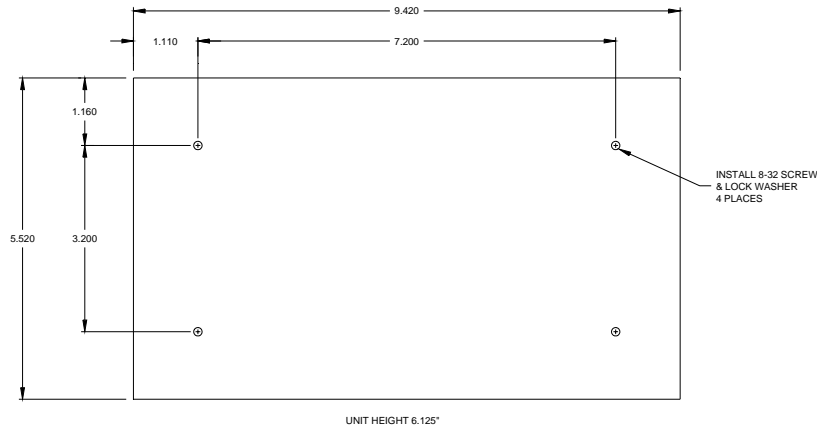

Figure 6 – RSM mounting
Installation of the RSM chassis requires four (4) clearance holes for the #8-32 threaded screws. Dimensions in figure 6 are in inches.